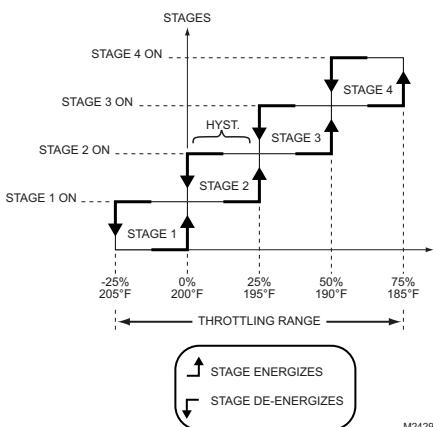

Fig. 18. Staging Behavior.
Staging occurs as illustrated in Fig. 18 for a Heat setpoint of 200°F and a throttling range of 20°F when the Integral value is zero (0). When the Integral is not zero, then the actual temperatures at which stages energize and de-energize will vary from this example; see “1.3.4.2. INTEGRAL” on page 18.